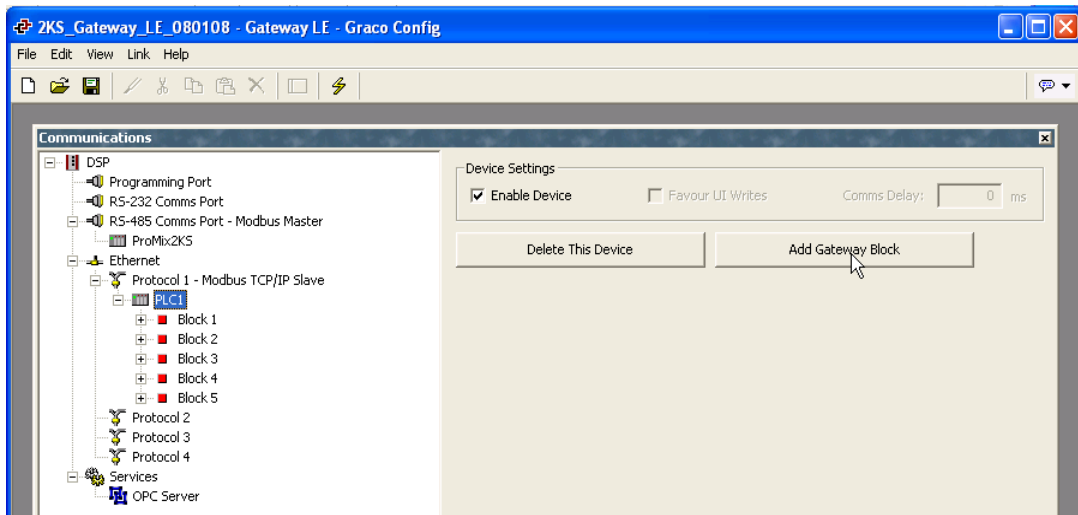

FIG. 21: Add Gateway Blocks
4. See FIG. 21. Add as many Gateway blocks as desired under each device.